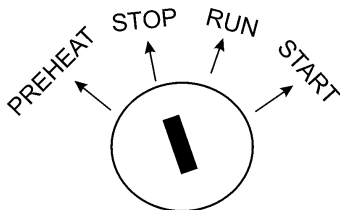

Figure 31. Ignition Switch 'STOP'
4. Turn the ignition key to 'STOP' (Figure 31).